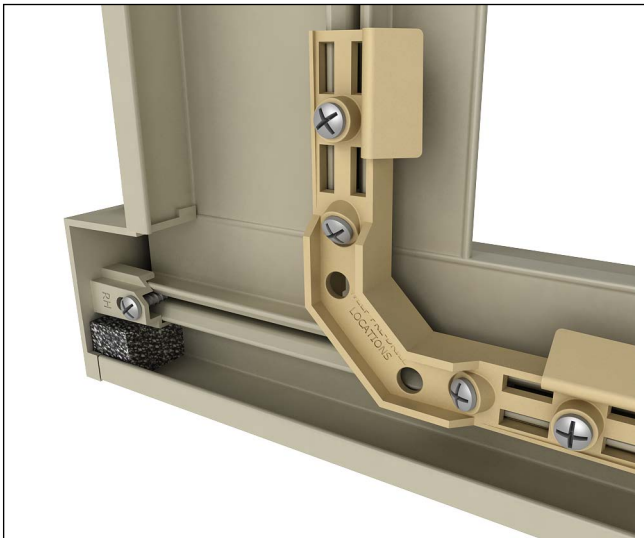

Figure 45
- Press reticulated foam onto pegs on sill end cap, making sure it covers the weep hole, and attach the sill nosing end caps to sill with supplied screws. Attach flat end caps to head jamb using supplied screws. Align casing with tab on end caps. See *figure 45*.